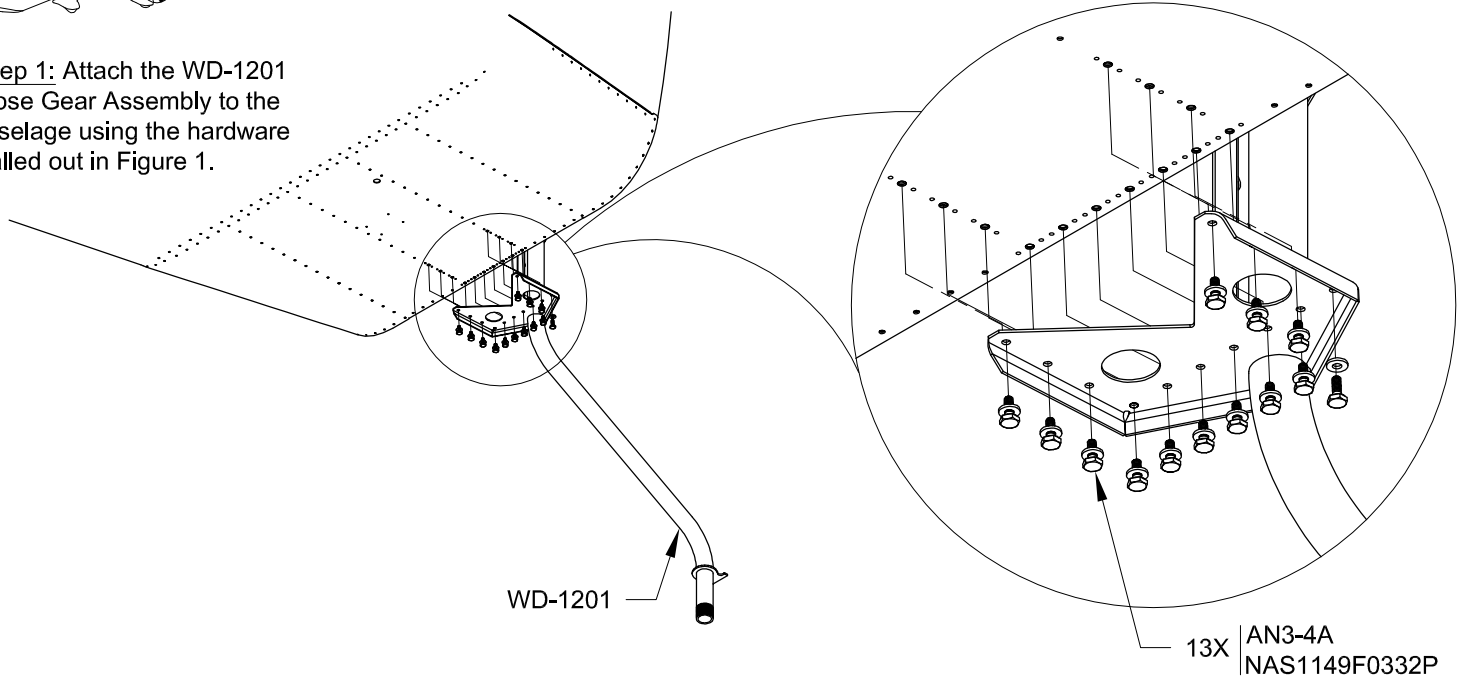

FIGURE 1: ATTACHING THE NOSE GEAR
Step 1: Attach the WD-1201 Nose Gear Assembly to the fuselage using the hardware called out in Figure 1.